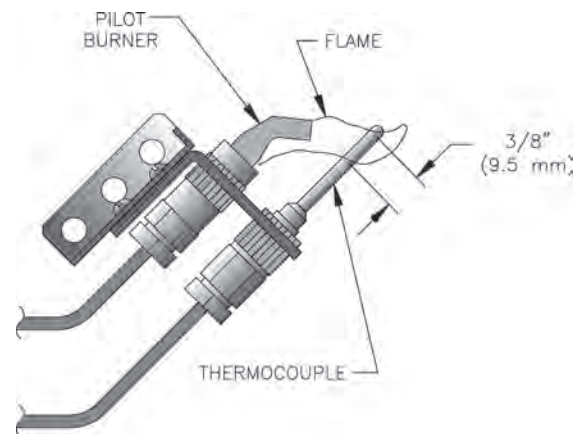

Figure 9: Pilot Burner Flame, Continuous Ignition System, Honeywell Q350 Pilot
- a. Continuous Ignition (Standing Pilot), Models IN3_C through IN7_C. See Figure 9. Pilot burner produces a single flame. The flame should be steady, medium hard blue enveloping 3/8 to 1/2 inch of thermocouple. If flame is yellow and lazy, follow instructions TO TURN OFF GAS TO APPLIANCE (see Figure 4) and contact a qualified service agency.